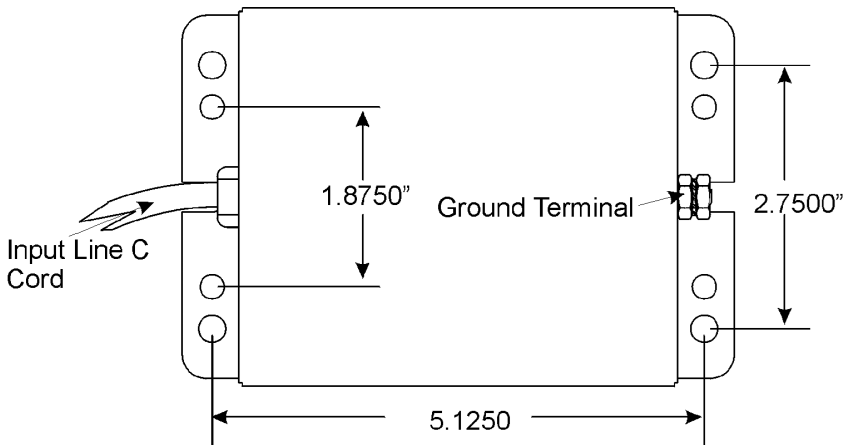

Figure 10. Mounting Holes for "D" Power Supply
3. Drill four 9/32” diameter clearance holes for mounting the power supply using 1/4-20 hardware. Refer to **Figure 10** for dimensions between clearance holes.